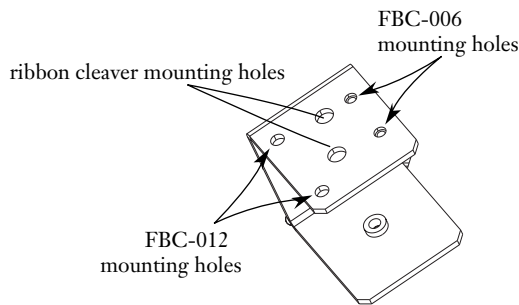

Figure 22
6.8 If desired, secure a cleaver to the ASP's cleaver mounting bracket (Figure 22).